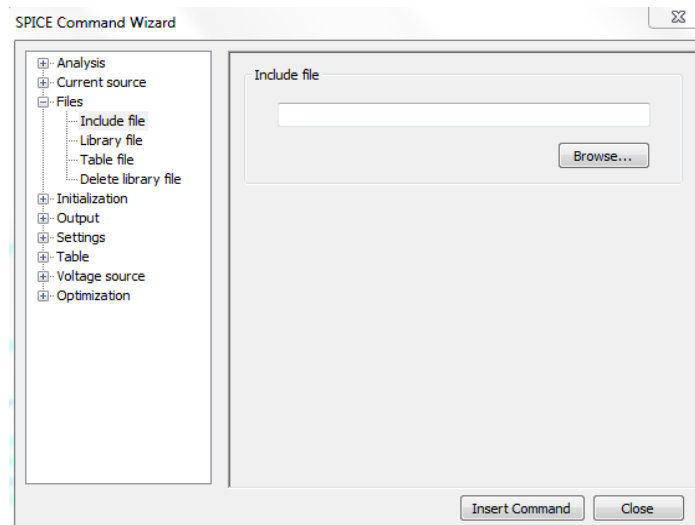

Figure 71: T-Spice Command Tool dialog
- ☑ Select the **Insert Command** button to invoke the **T-Spice Command Tool** dialog (Figure 71).